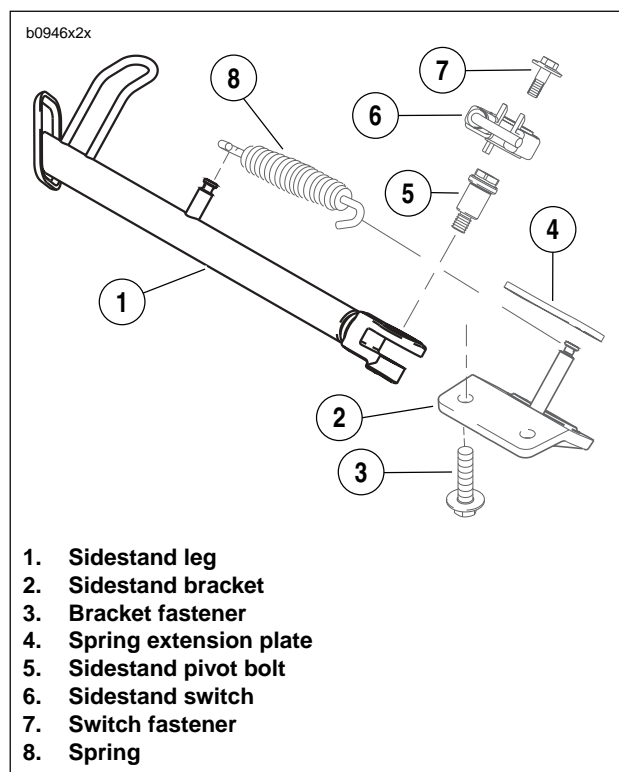
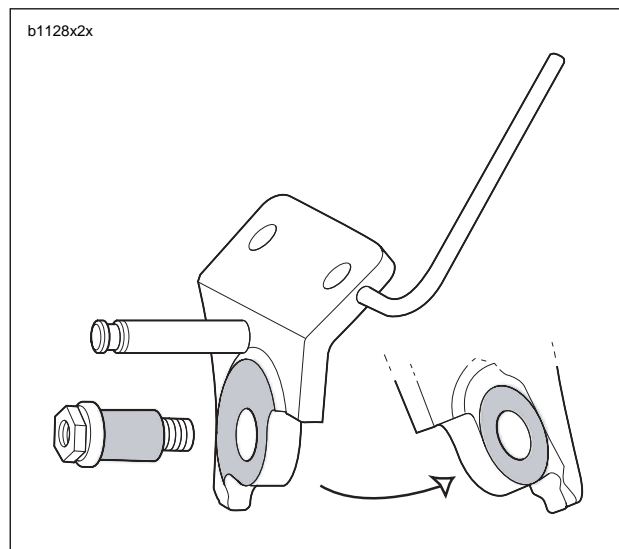

Figure 2-118. Sidestand Assembly
Figure 2-119. Lubricating Points (Shaded Areas)
2. See Figure 2-118. Remove sidestand switch (6). See SIDE STAND SWITCH in this section.
3. Remove fasteners (2) securing sidestand bracket (3) to frame.
2. See Figure 2-118. Remove sidestand switch (6). See 2.43 SIDESTAND ASSEMBLY/ SIDESTAND SWITCH.
3. Remove sidestand leg (1).
- b. Remove sidestand spring (8) and spring extension plate (4) using SNAP-ON SPRING TOOL (Part No. HE-52B).
- c. Remove sidestand pivot bolt (5).
1. Install sidestand leg (1).
- a. See Figure 2-118. Lubricate sidestand pivot bolt (5) and mating portions on sidestand bracket (2) with WHEEL BEARING GREASE (Part No. 99855-89) as shown in Figure 2-119.
- c. See Figure 2-118. Install sidestand (1) and sidestand pivot bolt (5) tightening to 18-20 ft-lbs (24-27 Nm).
- e. Install spring extension plate (4) and sidestand spring (8) using SNAP-ON SPRING TOOL (Part No. HE-52B).
2. See Figure 2-118. Install sidestand switch (6). See 2.43 SIDESTAND ASSEMBLY/ SIDESTAND SWITCH.